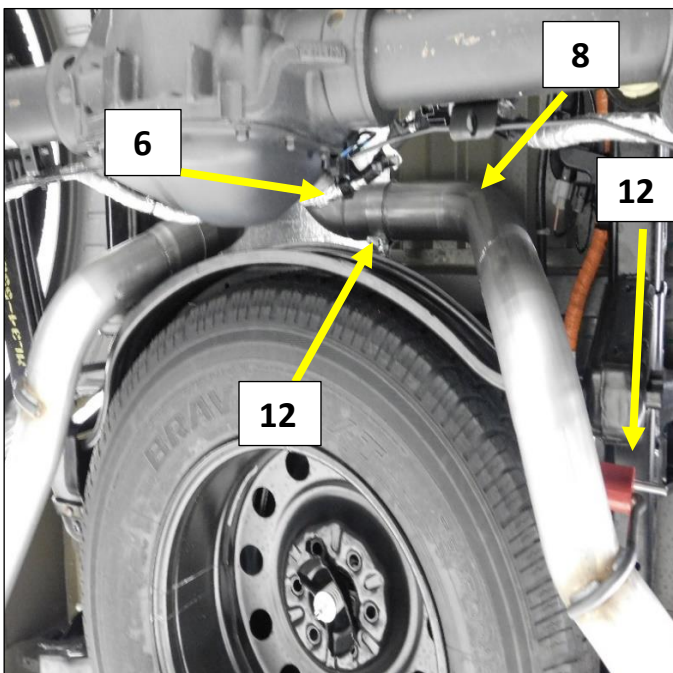

Figure 13
1. Install a 3" band clamp (12) on to the expanded end of the left muffler outlet pipe (6). Install the 3" clamp (12) with the bolt towards the rear of the truck and the nut facing down. **Fig. 13**
2. Install the left tailpipe (8) into the left muffler outlet pipe (6), align the hanger rods at the frame hanger, and install the red isolator (13). Use spray lube on the rods. **Fig. 13** - Tighten the clamp to allow for adjustment.